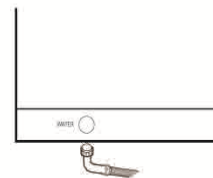

Fig. 6
- 2- Connect the solenoid valve, which feed the machine, to water shut valve, using a flexible line. (Fig.6) **Each machine must have its own water line supply.**